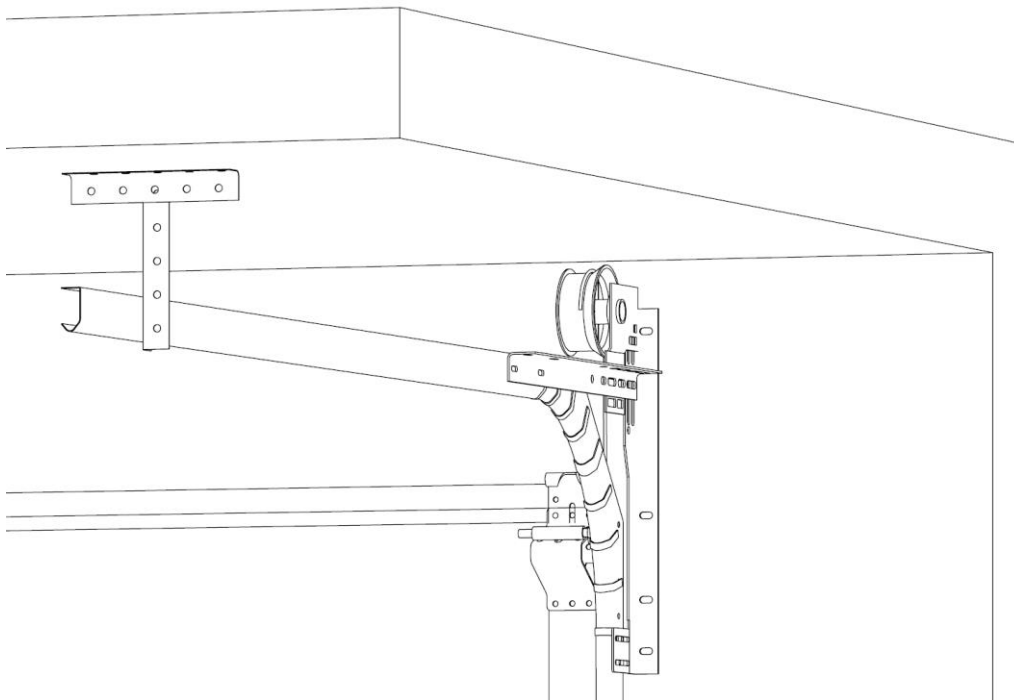

Figure 17
- c. Secure horizontal track approx. 2400mm back using angle off the ceiling or brackets off side walls. (Figure 17)